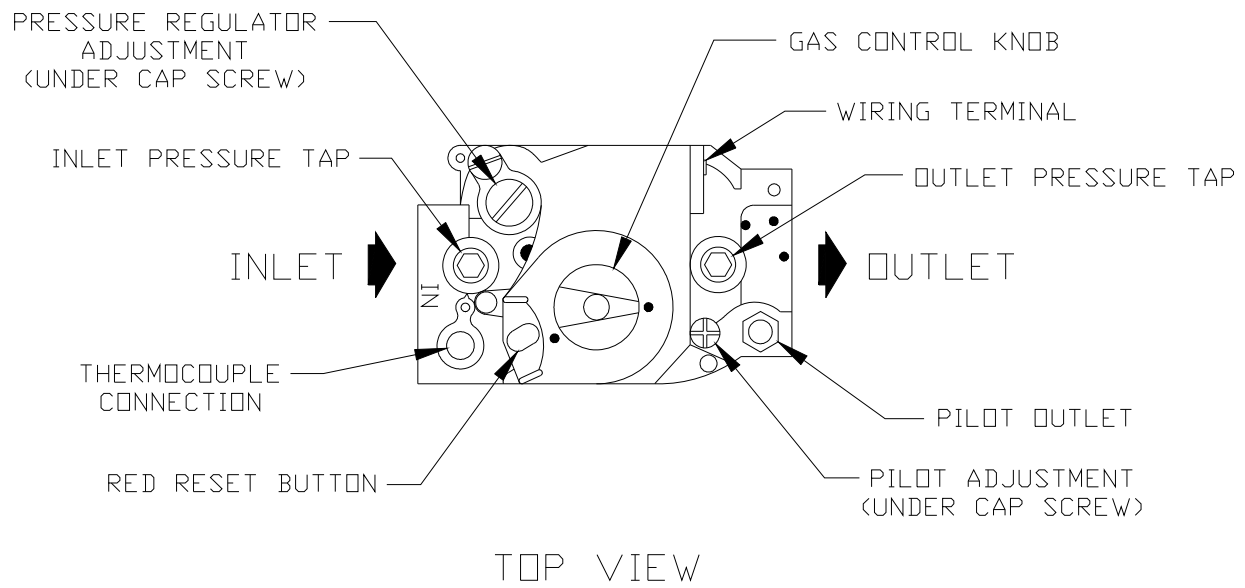

FIGURE 24: GAS VALVE DETAIL - STANDING PILOT
- a) Connect a manometer to the line pressure tap on the gas valve (see Figures 24 and 25).
- c) Connect a manometer to the manifold (outlet) pressure tap on the gas valve (see Figures 24 and 25).
- e) If a manifold pressure adjustment is needed, make the adjustment by turning the regulator (see Figures 24 and 25) screw clockwise to raise the pressure and counter clockwise to reduce the pressure. If a manifold pressure adjustment is made, recheck the line pressure to be certain that it is still within acceptable limits. Replace the cover screw on the regulator.